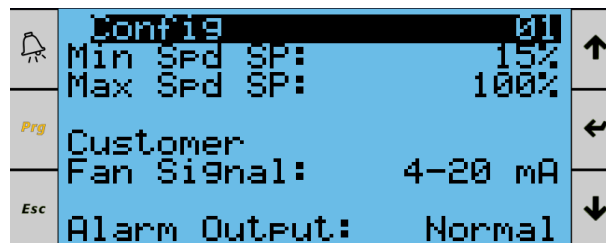
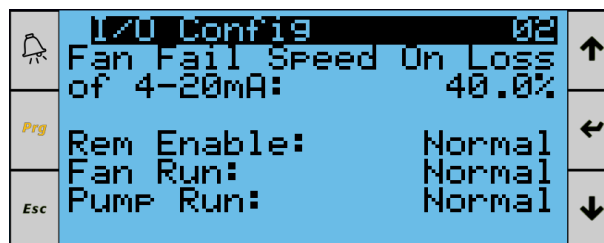

Figure 73. Service Menu, Page 1
Figure 74. Service Menu, Page 2
15. Within the Service Menu shown on **Figure 73** and **Figure 74** below, set or validate the parameters below.